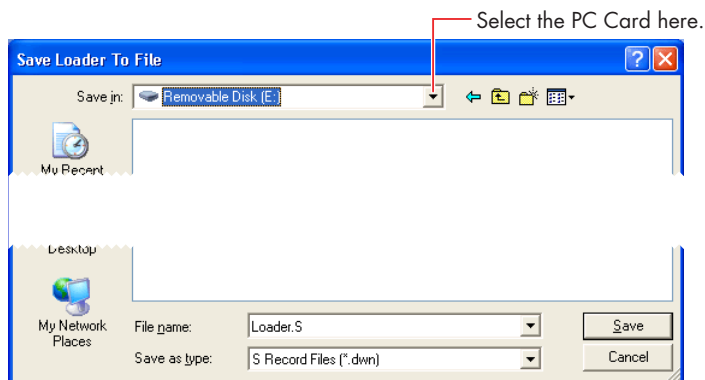

FIGURE 143 Saving the Loader.S component of the .dxf file to the card
- In the Save Loader To File dialog box that opens (Figure 143), navigate to the root directory of the PC Card (that is, the card must be selected/visible in the **Save in** list box as shown in Figure 143), then click **Save**.